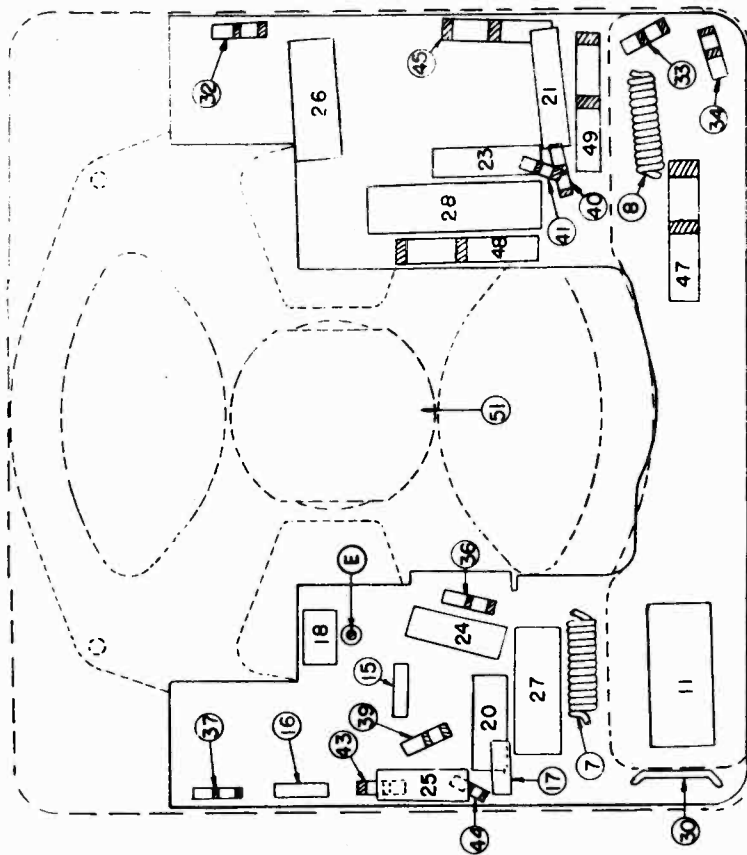

FIG. 4--PARTS LAYOUT--Bottom View
- (f) Adjust the trimmers (illus. A,B,C,D, Fig. 4) for maximum output. Repeat with lowest possible output from the signal generator for more accurate alignment.
- (f) Adjust the I-F trimmers (Illus. A, B, C, D, Fig. 3) and the I-F core adjustment (Illus. E, Fig. 4) until maximum output is obtained.